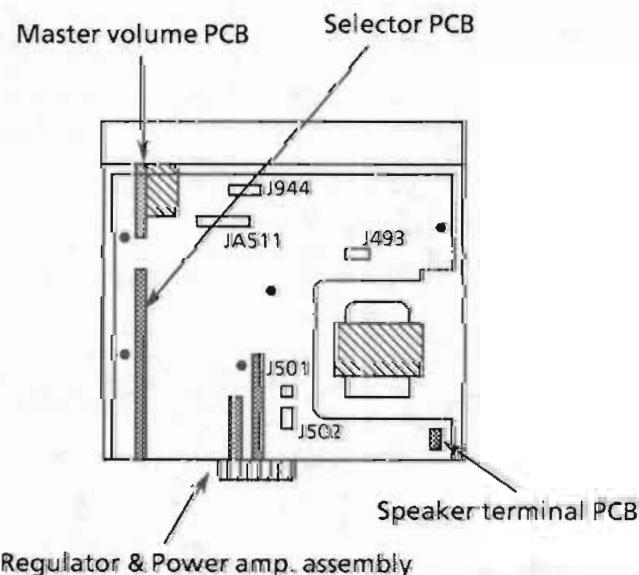

Figure 3 Top view of the unit without the CD chassis base
4. Disconnect the flat wire J493, JA511 and J944 (Figure 3).
5. Remove the master volume PCB, selector PCB, speaker terminal PCB & Regulator & Power amp. assembly (Figure 3).
6. Disconnect the flat wire J501,502 (Figure 3).